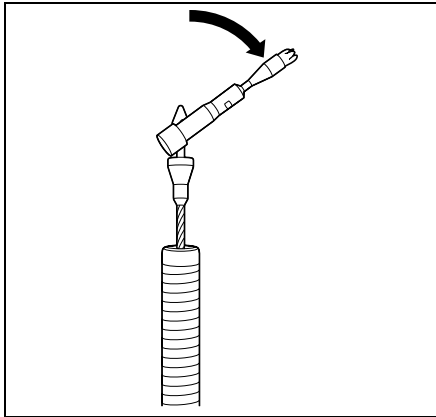

Figure 3.15
1. Push the slider so that the hook is extended from the coil sheath. Now bend the clip connector with respect to the hook and remove (see Figure 3.15).